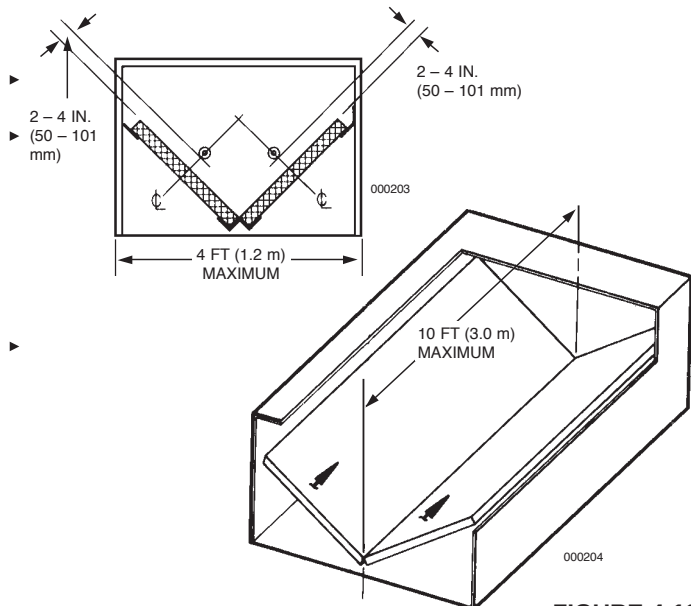

FIGURE 4-11
- Two 1N nozzles will protect 10 linear feet (3.0 m) by 4 ft (1.2 m) wide of “V” bank plenum. The nozzles must be mounted in the plenum, 2 to 4 in. (50 to 101 mm) from the face of the filter, centered between the filter height dimension, and aimed down the length. The nozzle must be positioned 0-6 in. (0-381 mm) from the end of the hood to the tip of the nozzle. See Figure 4-11.